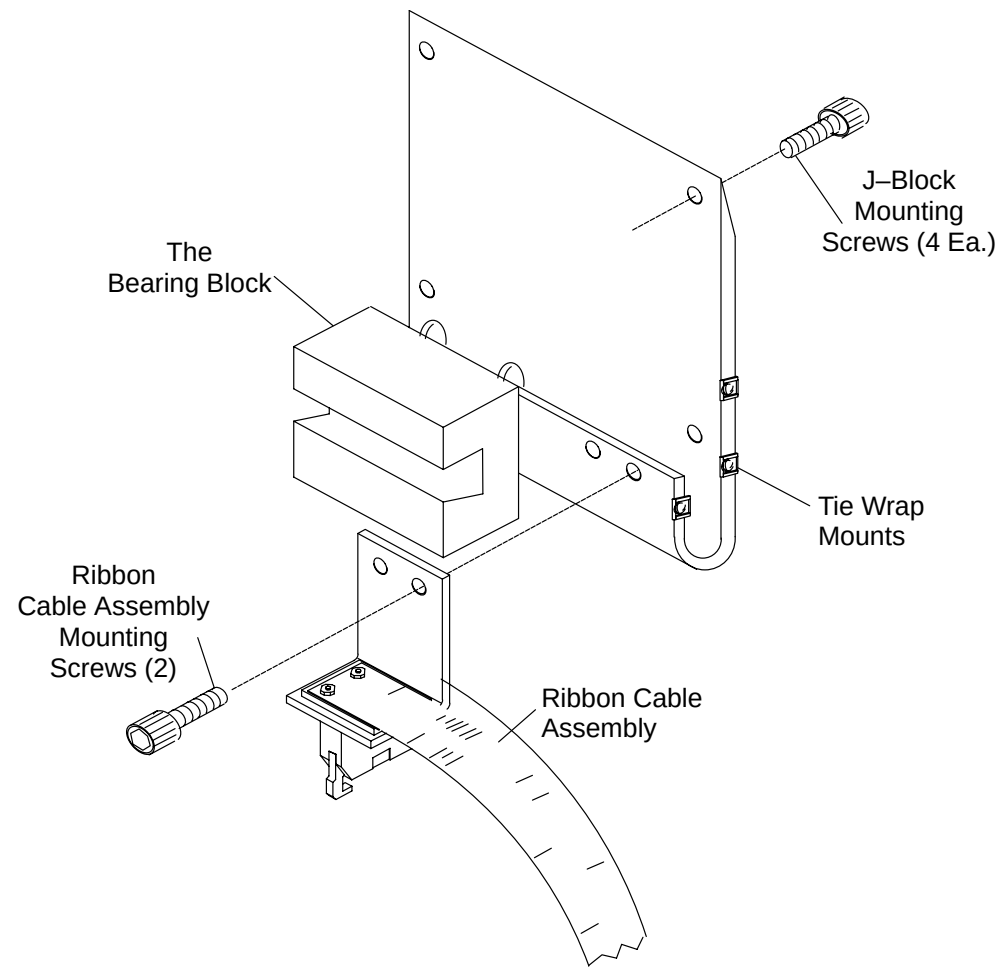

FIGURE 191 J Block
7. Disconnect the Tape Switch from the Ribbon Cable Assembly on the left side of the Carbon Top. See Figure 191.